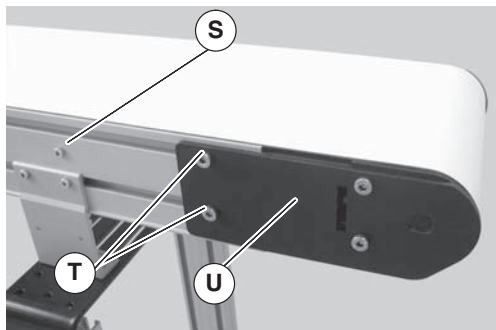
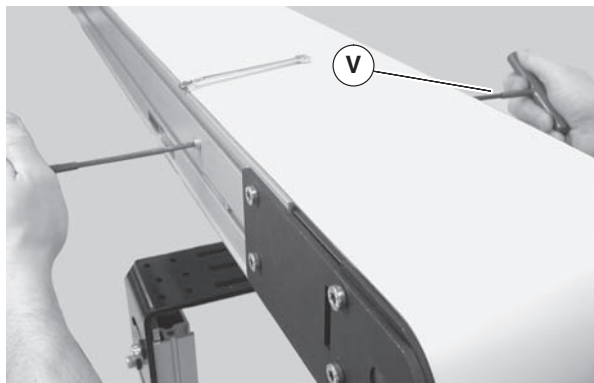

Figure 26
Figure 27
1. On tension end of the conveyor, identified by the pinion locking screw (Figure 26, item S), loosen the two tail clamp bolts(T), on both sides of conveyor.
2. With 5mm hex wrench, hold pinion torque screw (Figure 27, item V). Loosen the pinion locking screw (Figure 26, item S) and turn the pinion torque screw(V) to extend head plate assembly.
4. After adjusting proper tensioning, tighten the pinion locking screw (Figure 26, item S) to 69 in-lbs (7.8 N-m), and tighten tail clamp bolts (Figure 26, item T) on both sides of conveyor to 146 in-lb (16.5 N-m).
1. Ensure tensioning racks are extended and touching the idler pulley headplates: loosen the pinion locking screw (Figure 26, item S) and rotate the pinion torque screw (Figure 27, item V) clockwise until contact with the head plate is made, then tighten the pinion locking screw (S) to 69 in-lbs (7.8 N-m)